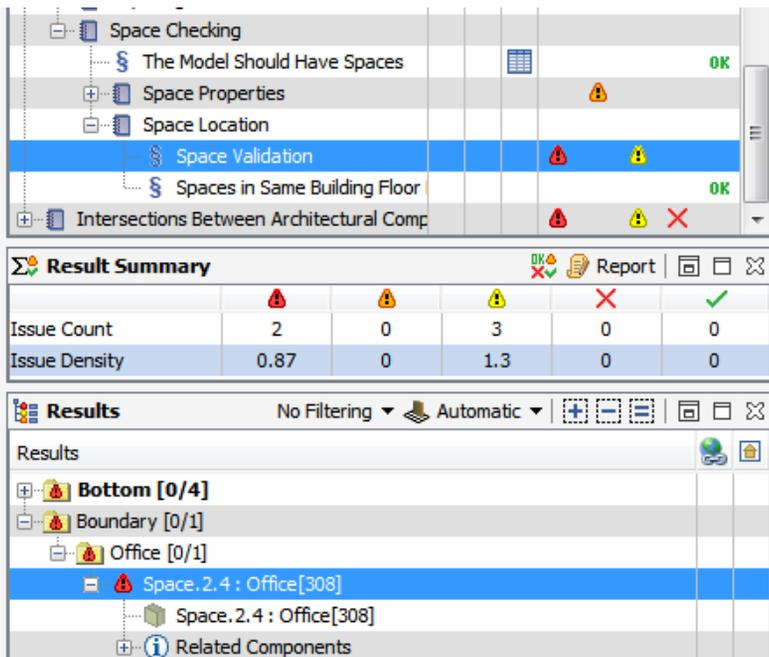

Figure 63 Boundary problem with Space 2.3: Office [308]
- (1) Open the "Space Checking" -> "Space Location" branch in the **Checking Tree Table**.
- (2) Select the "Space Validation" rule.
- (3) Open the "Boundary" category in the Results Tree Table and select the issue inside it "Boundary"-> "Office"-> "Space 2.4" (see Figure 63).